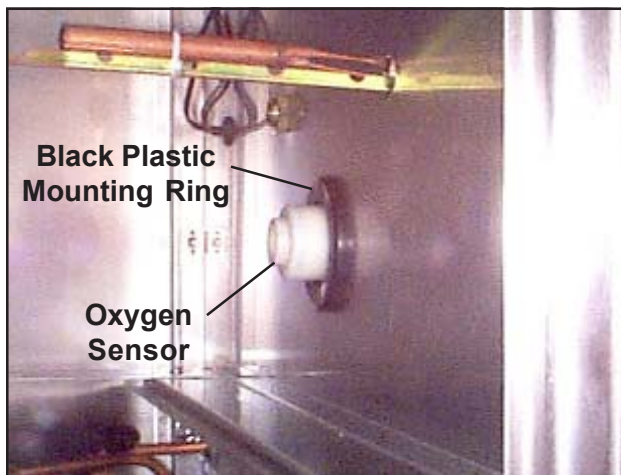

Figure 79. New Style Oxygen Sensor Mount
4. Inside the filter/fans compartment, notice the installation of the oxygen sensor (Figure 79).
2. With the oxygen sensor in place in the partition wall, unscrew the end cap from the oxygen sensor (Figure 79).